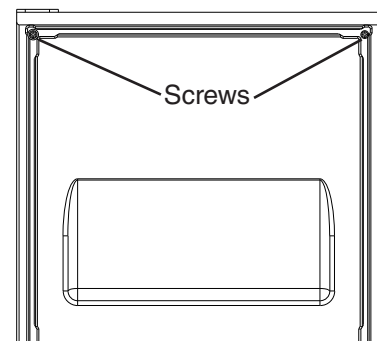

Fig. 14
- 2) Temporarily fasten the overlay panel to the door using 2 of the M4×25 pan head screws provided. See Fig. 14.